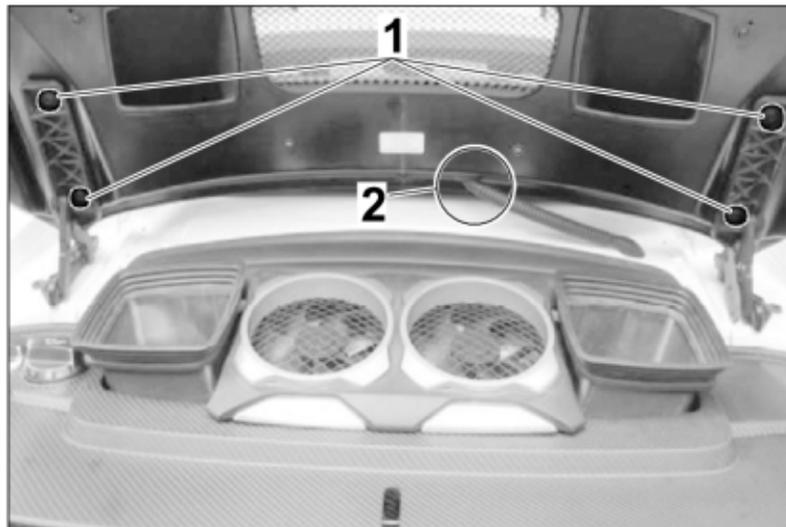

Figure 63
34. – Fasten the trunk lid with the standard screws ⇒ Figure 63 -1-. Insert the standard wiring harness for the third brake light through the opening in the trunk lid ⇒ Figure 63 -2-. Check that the rubber sleeve is installed correctly. Close the trunk lid and, if necessary, correct the gap dimensions at the transitions to the adjacent body parts.